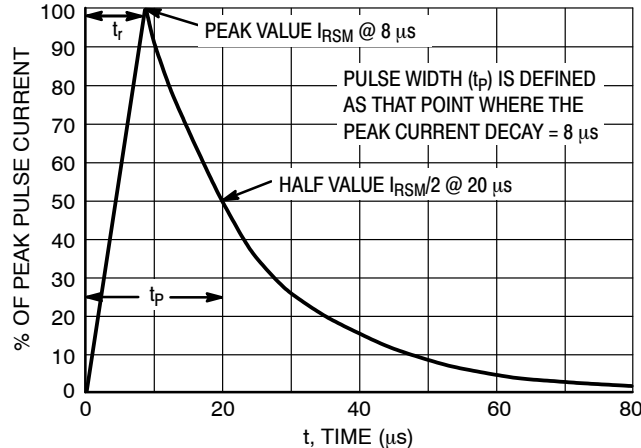

Figure 7. 8 x 20 μ s Pulse Waveform
1. Surge current waveform per Figure 7.